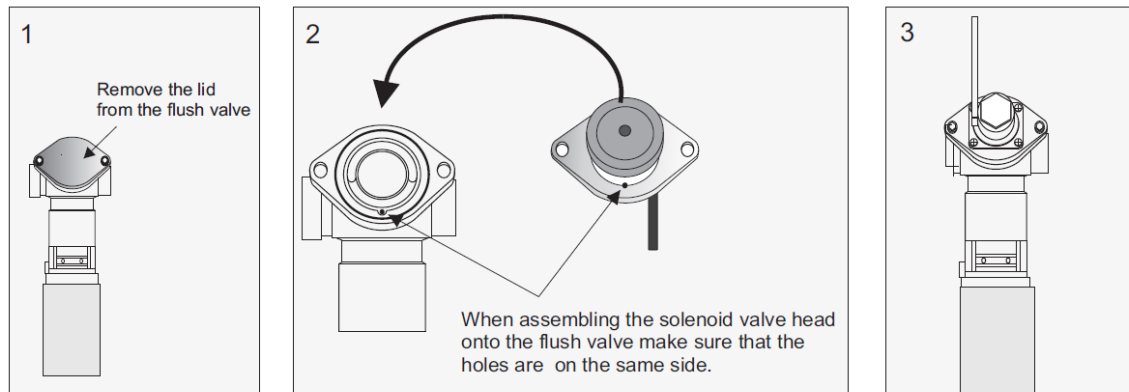

fig.3
- Remove the cover plate from the flush valve and install the solenoid vale head (see fig.3).
- Check that the solenoid valve head has been assembled the correct way (see fig.3).